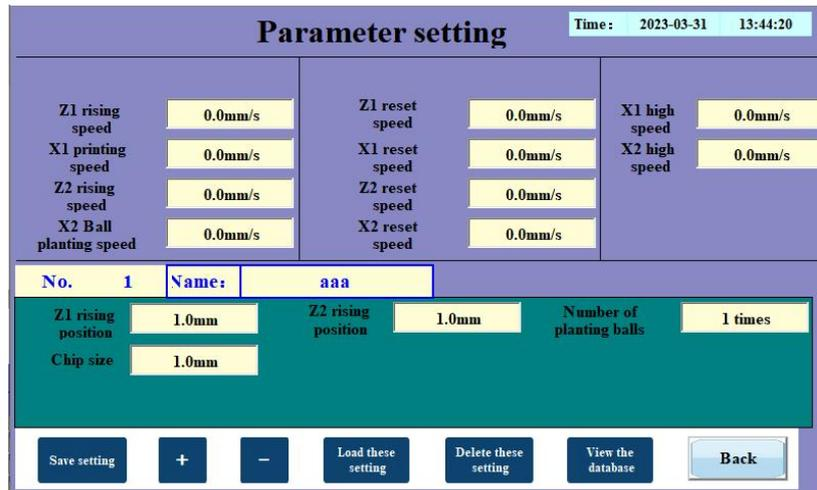

Figure 5
① Parameter setting: Click to enter the "Parameter Settings" window (Figure 5).